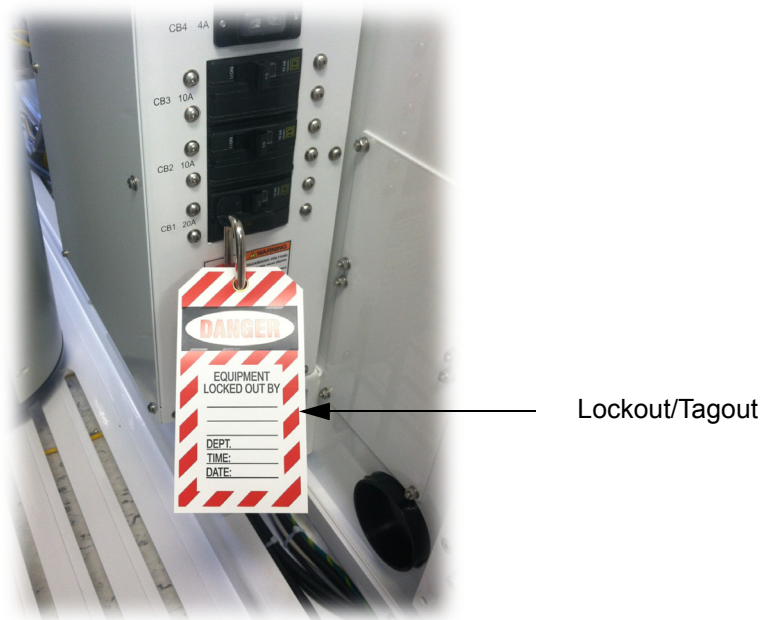

Figure 6-5: Lockout/Tagout
5. Attach a lock and warning tag onto the locking bar as shown in Figure 6-5.